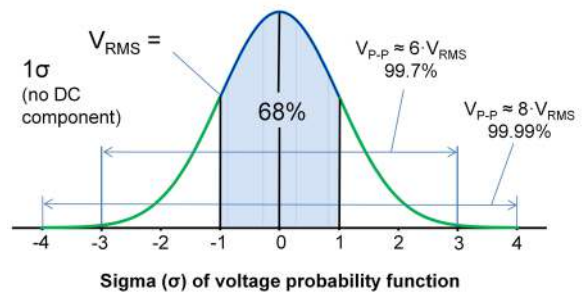

Figure 58: Gaussian noise spikes outside the  $\pm 3$ -times range are rare.
Resistor noise is also Gaussian, a description of its amplitude distribution, a probability density function. It is Gaussian because it was created by the summation of a gazillion little random events. The central limit theorem explains how this noise becomes Gaussian. The root-mean-square (RMS) voltage of alternating current (AC) noise is equal to  $\pm 1 \sigma$  of the amplitude distribution (Figure 58). For 1-V RMS noise, there is a 68 percent ( $\pm 1\text{-}\sigma$ ) probability that the instantaneous voltage will be within a  $\pm 1\text{-V}$  range. A common misconception is to relate or equate white and Gaussian, but they are unrelated. Filtered resistor noise, for example, is not white but remains Gaussian. Binary noise is definitely not Gaussian, but it can be white. Resistor noise is white **and** Gaussian.